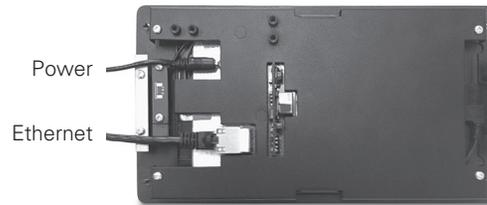

Figure 17
16. Connect the DC power and/or Ethernet CAT5e cable to the TOUCH7 as shown in Figure 17.